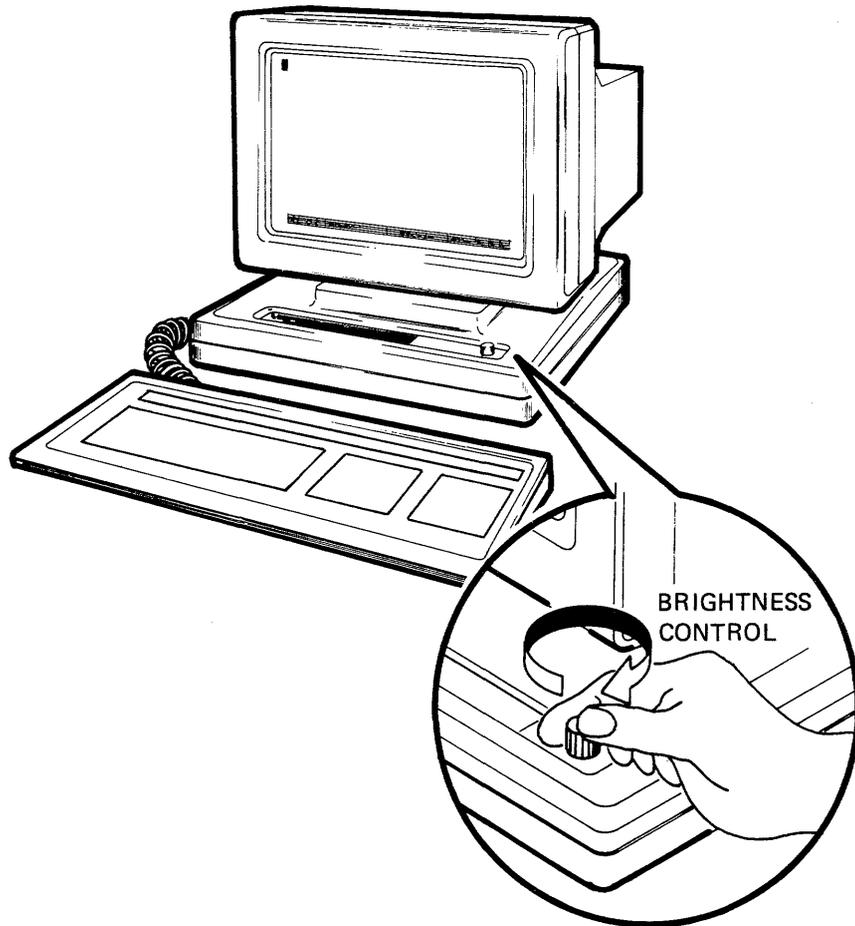

Figure 1-4. Brightness Control
**Brightness**        The Brightness control is used to adjust display intensity. The rotating knob on the right front corner of the display unit is used for this purpose. Refer to Figure 1-4.